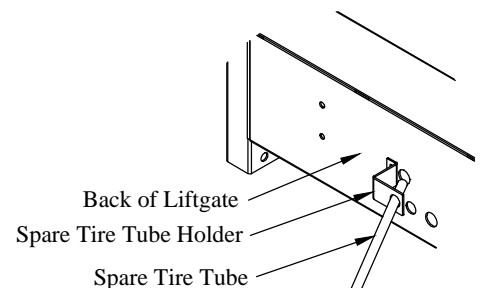

Figure 10: Spare tire tube holder.
4. **Position** the spare tire tube holder on the spare tire tube (Figure 10).
6. **Position** the spare tire tube holder against the liftgate (Figure 10). The spare tire tube should extend through the 1" hole of the tube holder.
7. **Mark** two (2) 1/4" hole locations on the liftgate using the tube holder as a guide.
9. **Drill** two (2) 1/4" holes in the positions previously marked.
10. **Fasten** the tube holder with the supplied two (2) 1/4" hex bolts and nuts.
6. **Position** the spare tire tube holder against the liftgate (Figure 10).